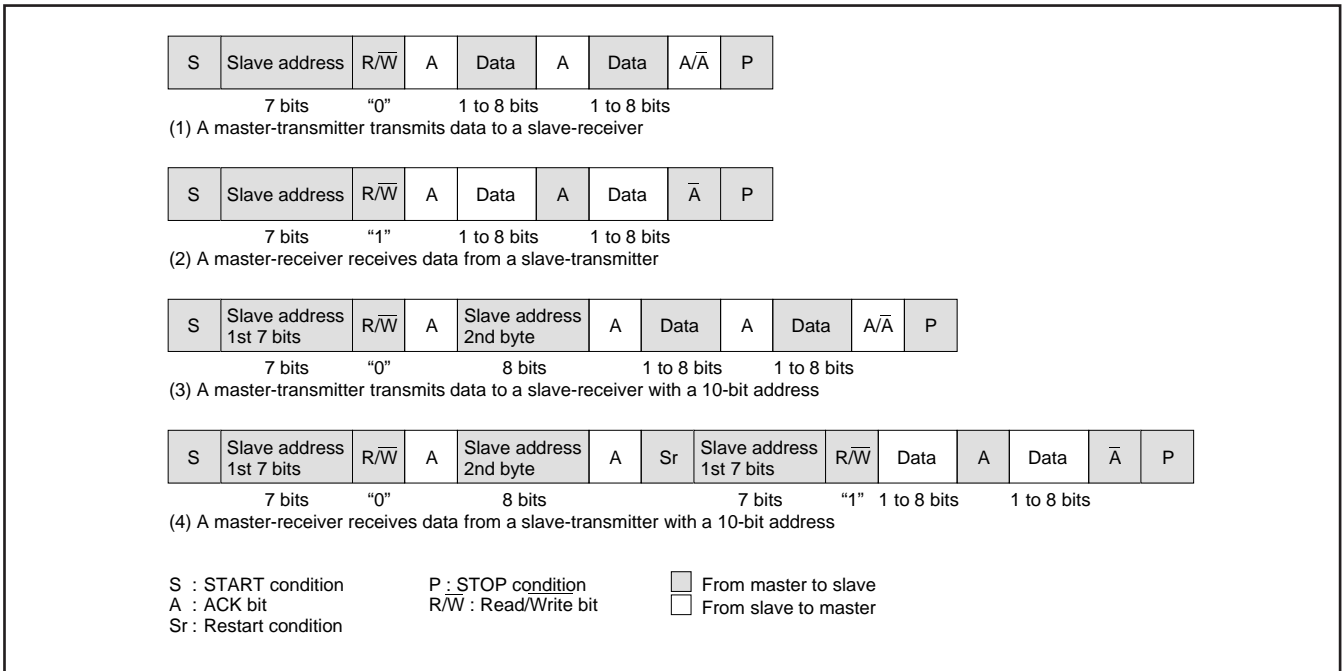

Fig. 12.6.12 Address Data Communication Format
(1) 7-bit Addressing Format
To meet the 7-bit addressing format, set the 10BIT SAD bit of the I²C control register (address 00F916) to "0." The first 7-bit address data transmitted from the master is compared with the high-order 7-bit slave address stored in the I²C address register (address 00F716). At the time of this comparison, address comparison of the RBW bit of the I²C address register (address 00F716) is not made. For the data transmission format when the 7-bit addressing format is selected, refer to Figure 12.6.12, (1) and (2).
(2) 10-bit Addressing Format
When the first-byte address data matches the slave address, the AAS bit of the I²C status register (address 00F816) is set to "1." After the second-byte address data is stored into the I²C data shift register (address 00F616), make an address comparison between the second-byte data and the slave address by software. When the address data of the 2nd bytes matches the slave address, set the RBW bit of the I²C address register (address 00F716) to "1" by software. This processing can match the 7-bit slave address and R/W data, which are received after a RESTART condition is detected, with the value of the I²C address register (address 00F716). For the data transmission format when the 10-bit addressing format is selected, refer to Figure 12.6.12, (3) and (4).